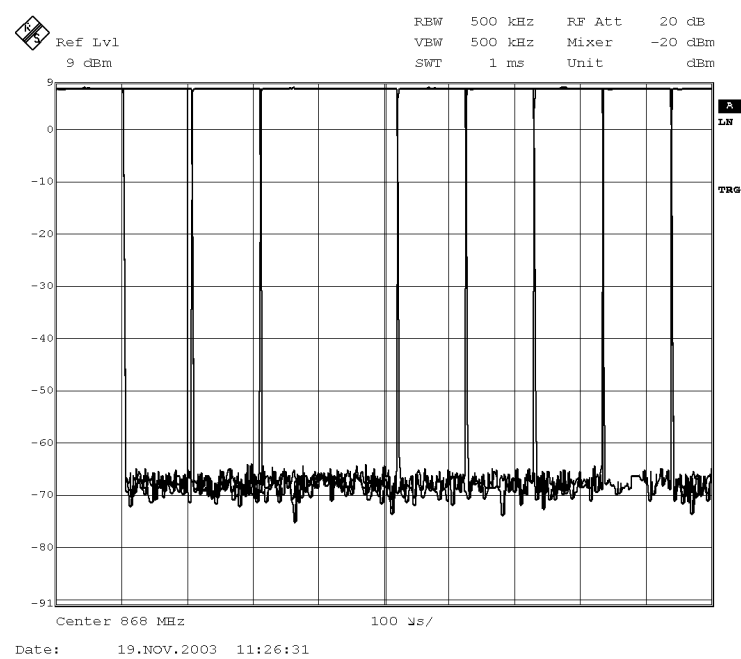

Figure 32. OOK eye diagram. 9.6 kBaud.
*DEVIATION* register. An OOK eye diagram is shown in Figure 32.